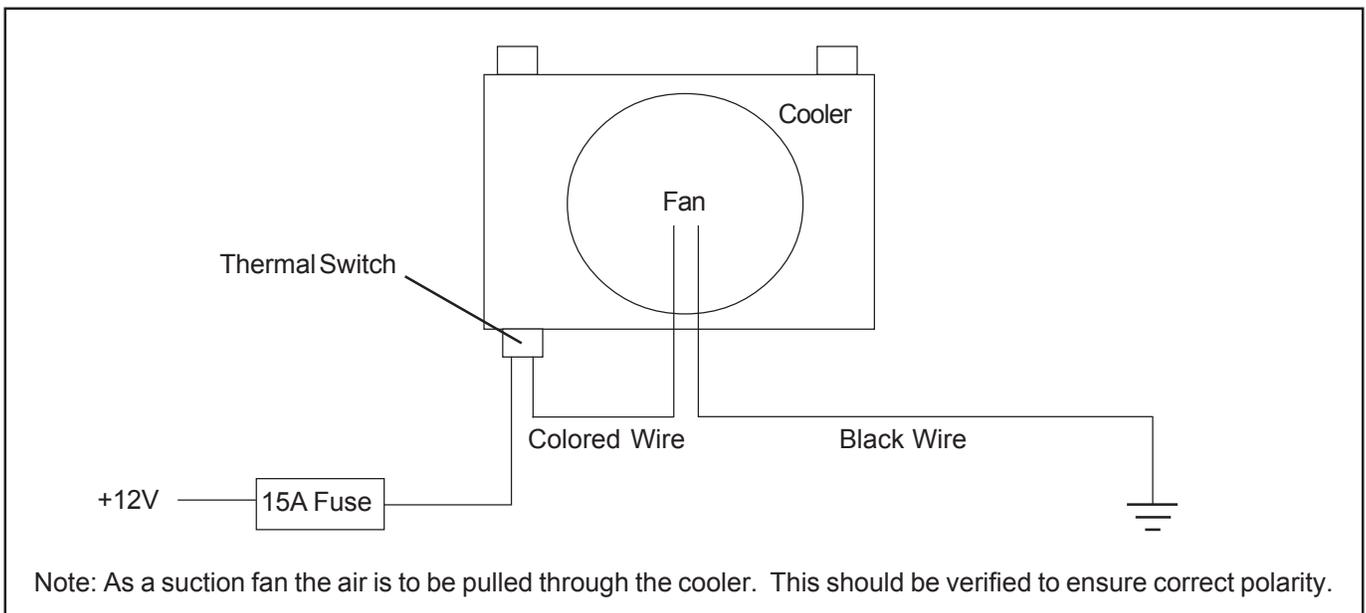

FIGURE 2
The cooling system is comprised of a plate-fin oil-to-air cooler. All channels are turbulized. The inlet-outlet fittings are 1/2" NPTF. The sensor fitting has an M16x1.5 thread. Also included is a 12V DC suction fan. As a suction fan the air is to be pulled through the oil cooler. This should be verified upon installation to ensure correct polarity to the fan. To prevent fan motor damage the maximum current draw should be protected with an in-line 15A fuse (see fig. 2). Furthermore, a bi-metal temperature switch controls the fan ON-OFF points:
**STEP 2.** Wire the thermal switch and fan as indicated in figure 2. Verify that the fan pulls air through the cooler. If it doesn't reverse polarity.